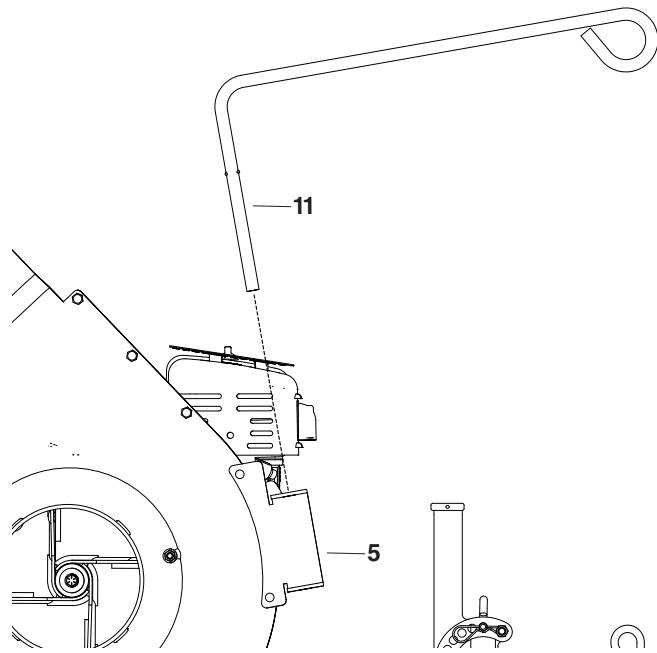

FIGURE 20
- Slide the hose hanger rod (11) into the bracket on the engine assembly (5) as shown below. See figure 20.